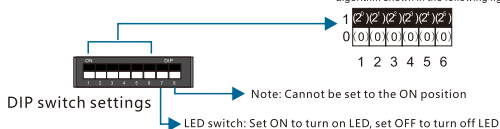

Figure 5. Address DIP Switch Table 1
5. Dial (see Figure 5):
- The 7-bit address of the dial (see Figure 5): When the 7-bit address is set ON, the LED indicator light is turned on (the factory default is turned on); when the address is set OFF, the LED indicator light is turned off.
- 8-bit address of dial (see Figure 5): cannot be set to the ON position, otherwise the device cannot be used.